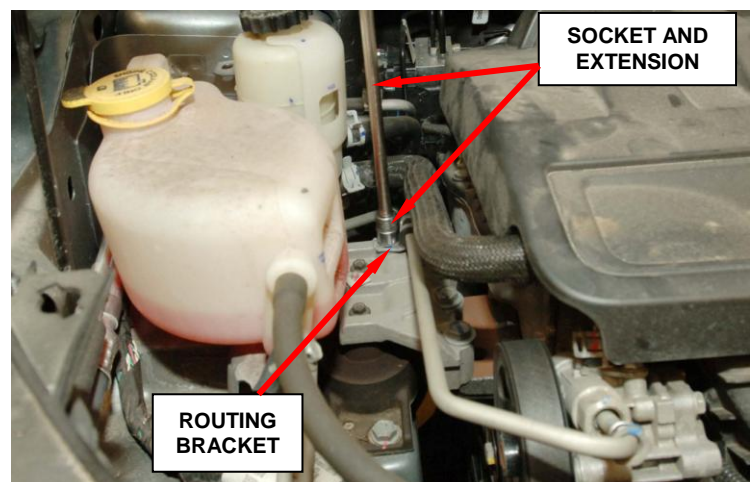

Figure 3 – Hose Routing Bracket
5. Remove the power steering pressure hose routing bracket bolt at the upper engine mount (Figure 3).